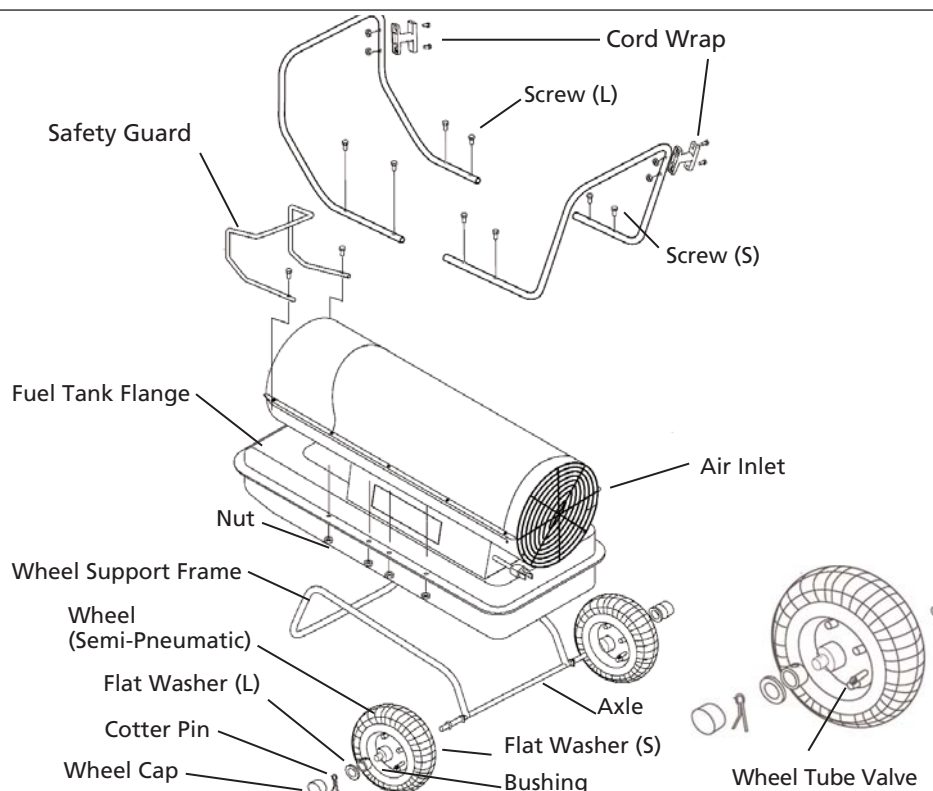

Figure 5 – Wheel and Handle Assembly
NOTE: When installing wheels, tube valve should face out from support frame (Figure 5).
2. Place flat washers (L) and cotter pins on axle ends and bend cotter pins with long nose pliers to secure.
3. Place wheel cap on flat washers (L) and put wheel cap in flat washers (L) end.
4. Place heater on wheel support frame. Make sure air inlet end (rear) of heater is over wheels. Align the holes on fuel tank flange. Insert screws through handles (front and rear), fuel tank flange, and wheel support frame as shown in Figure 5 and attach nut finger tight after each screw is inserted.